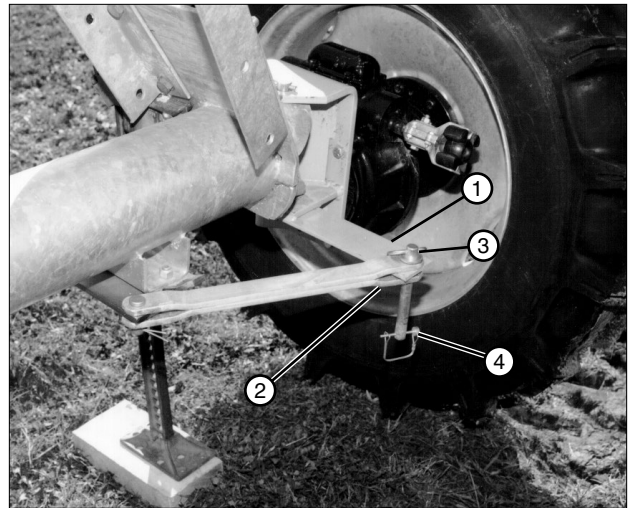

Figure 27-1 1. Steering Arm
8. Position steering arm in tow link bar yoke, align holes, then attach steering arm to tow link bar with torque pin. Secure torque pin with lynch pin. See figure 27-1.